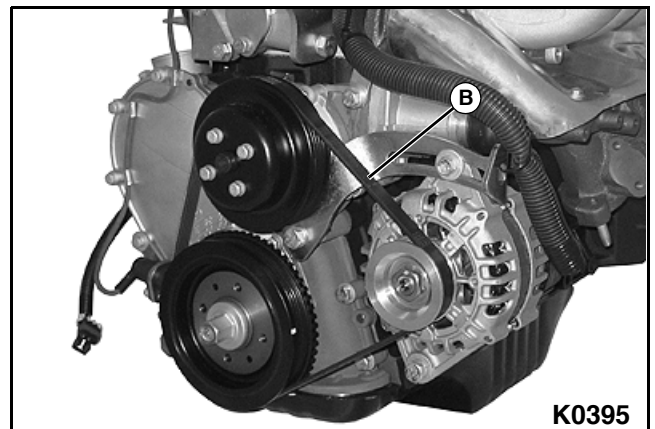

Figure 5-16
- The drive belt tension should be checked at the midpoint (B) between the pulleys. See Figure 5-16.